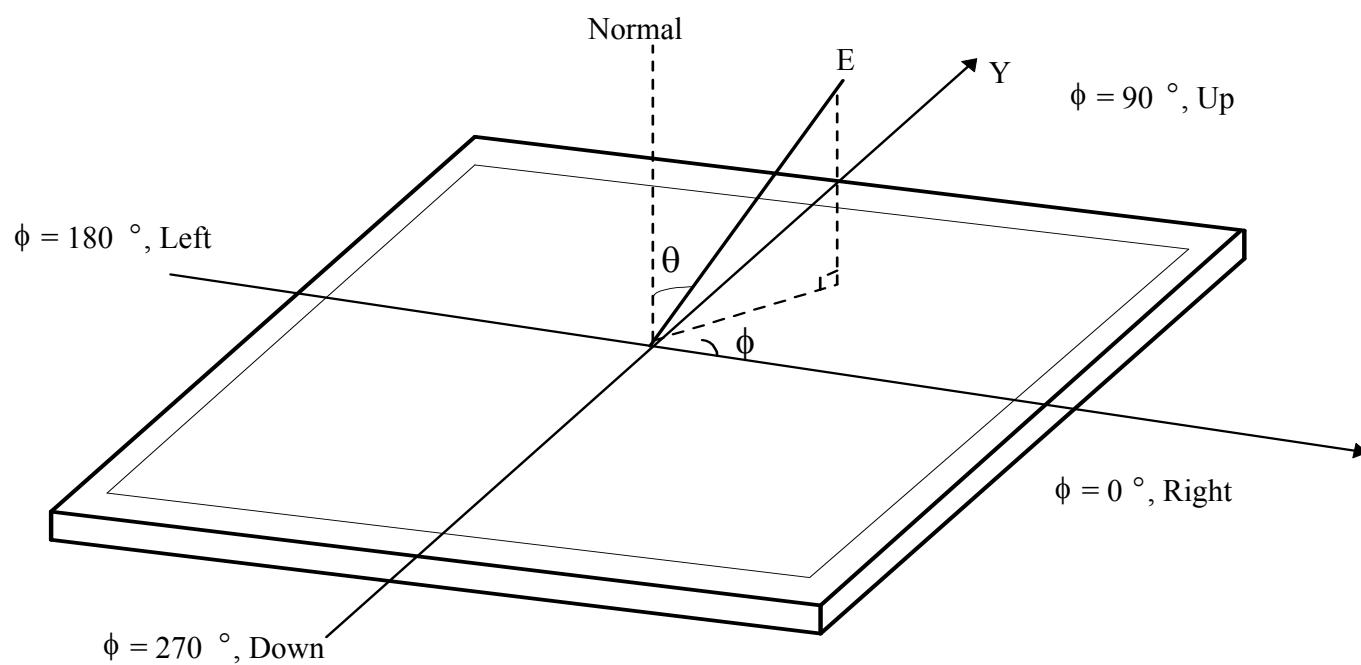

FIG. 4 Viewing angle
4. MPRT is defined as the 10% to 90% blur-edge width  $B_{ij}$ (pixels) and scroll speed  $U$ (pixels/frame)at the moving picture. For more information, see FIG 4